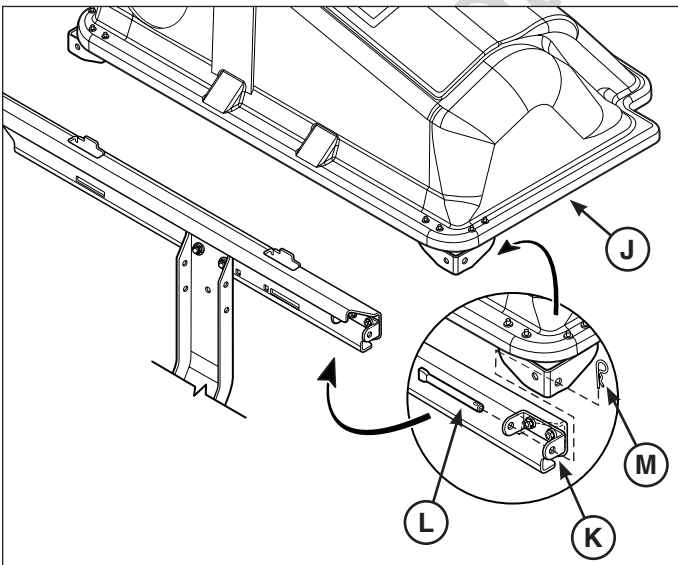

Figure 4
4. Attach the catcher cover assembly (J, Figure 4) to the hinge pivots (K), using one 3-3/4" clevis pin (L) and 1-7/8" hair pin (M) for each side of the cover.